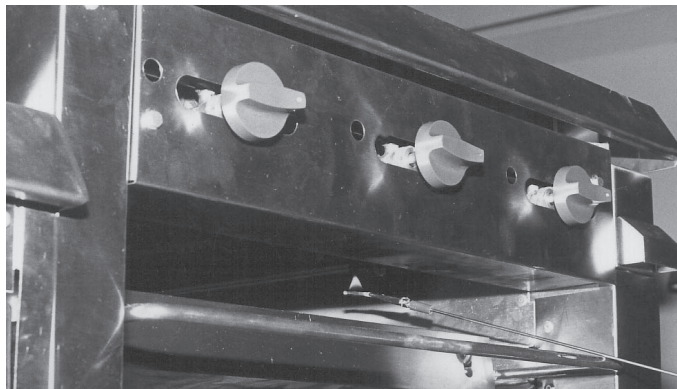

Fig. 9
2. Wait 30 seconds and, using a taper, light the hot top or griddle top pilot (Fig. 9).
2. Wait 30 seconds and, using a taper, light broiler/griddle pilot (see Fig. 9).